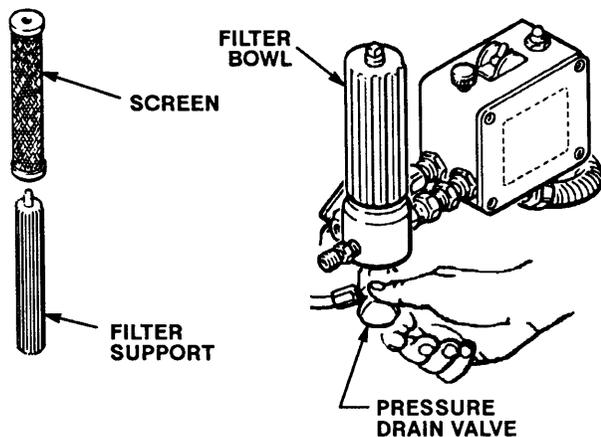

Fig 5
2. Remove the filter bowl and screen; see manual 307-273. Clean the screen separately and install the bowl without the screen to flush it. See Fig 5.